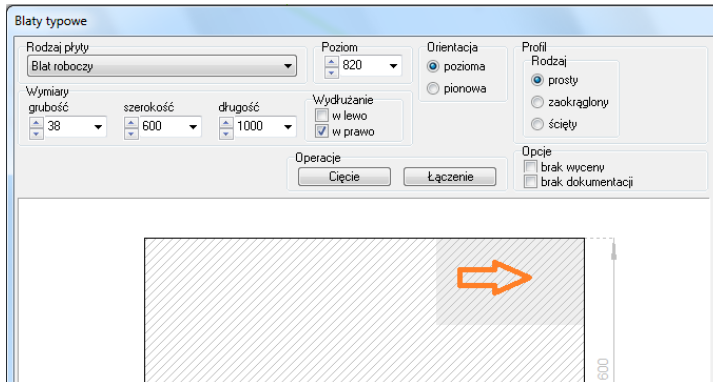

Fig. 199 – editing a corner
- select the corner for which you want to define one of the available technological cuts in the **Typical worktops** dialog (Fig. 199);